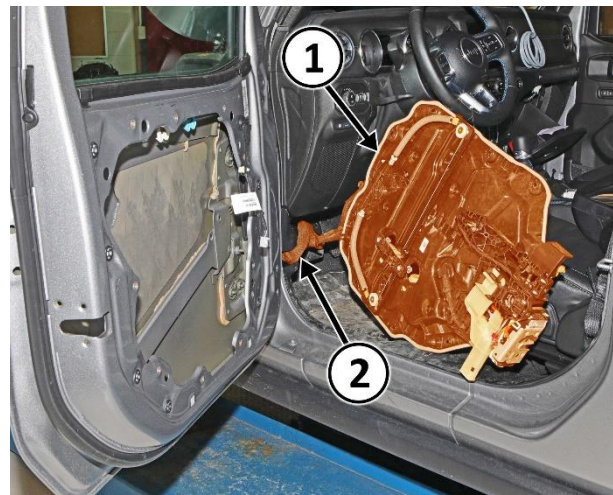

Figure 18 – Carrier Plate Assembly
33. Position the carrier plate assembly (1) aside inside the vehicle while leaving the door wire harness (2) attached between the carrier plate and vehicle (Figure 18).